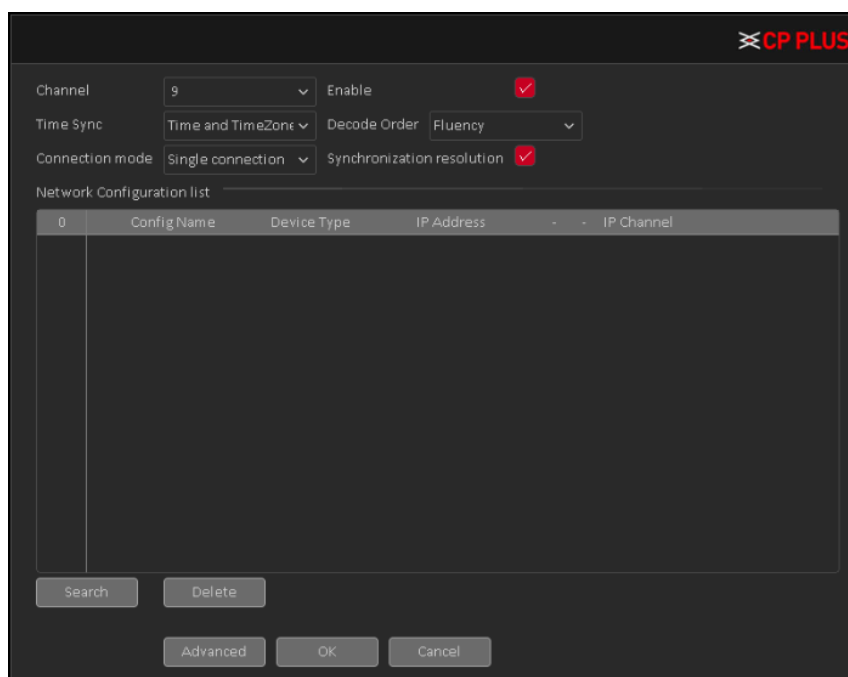

Figure 4.6
- **[Manual Add]** Click it to add the IPC manually at custom level. See Figure 4.6